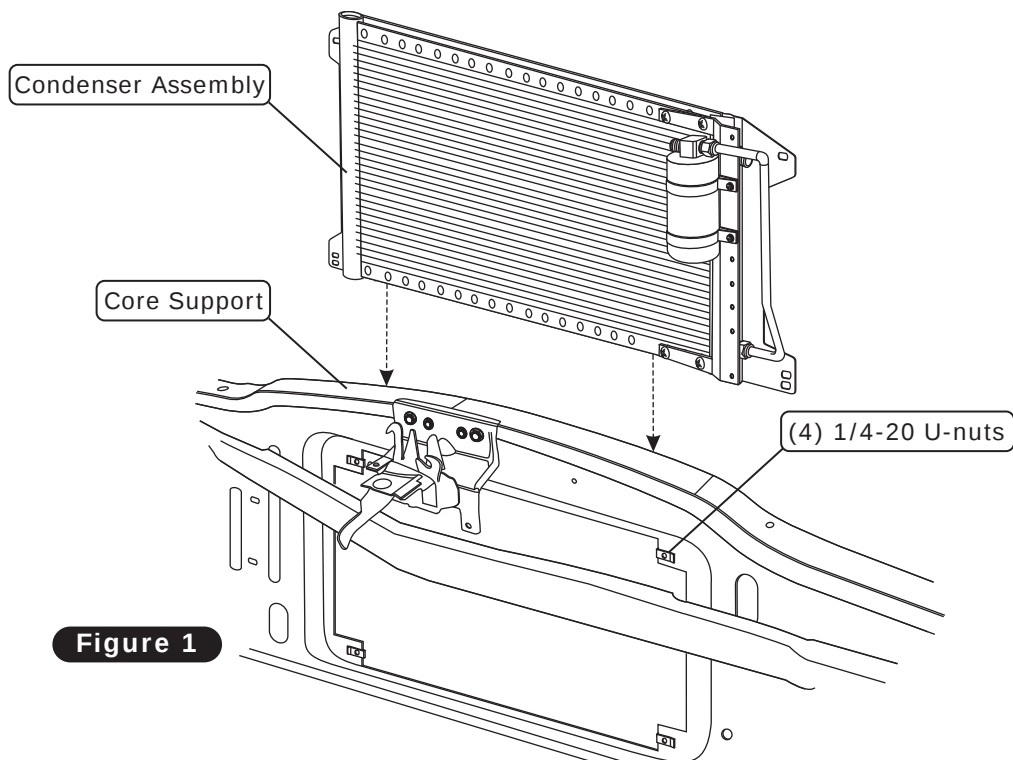

Figure 1
1. Install (4) 1/4-20 U-nuts on the core support as shown in Figure 1, below.
2. Install condenser assembly between the radiator and the core support as shown in Figure 1, below.
1. Lubricate a #6 and #8 O-ring as shown in Lubricating O-rings, Page 7. Install the #6 drier/core hardline and the #8 condenser hardline as shown in Figure 1, below. Tighten fittings as shown in Lubricating O-rings, Page 7.
1. Install the binary switch onto the drier as shown in Figure 1, below.